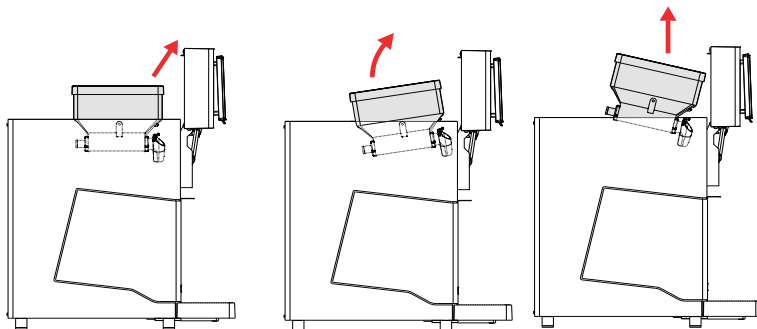

Figure 3-3
4. Pull the front of the ingredient container up and slightly forward so that the ridge on the control side is positioned just above the top, (1). (see figure 3-3)